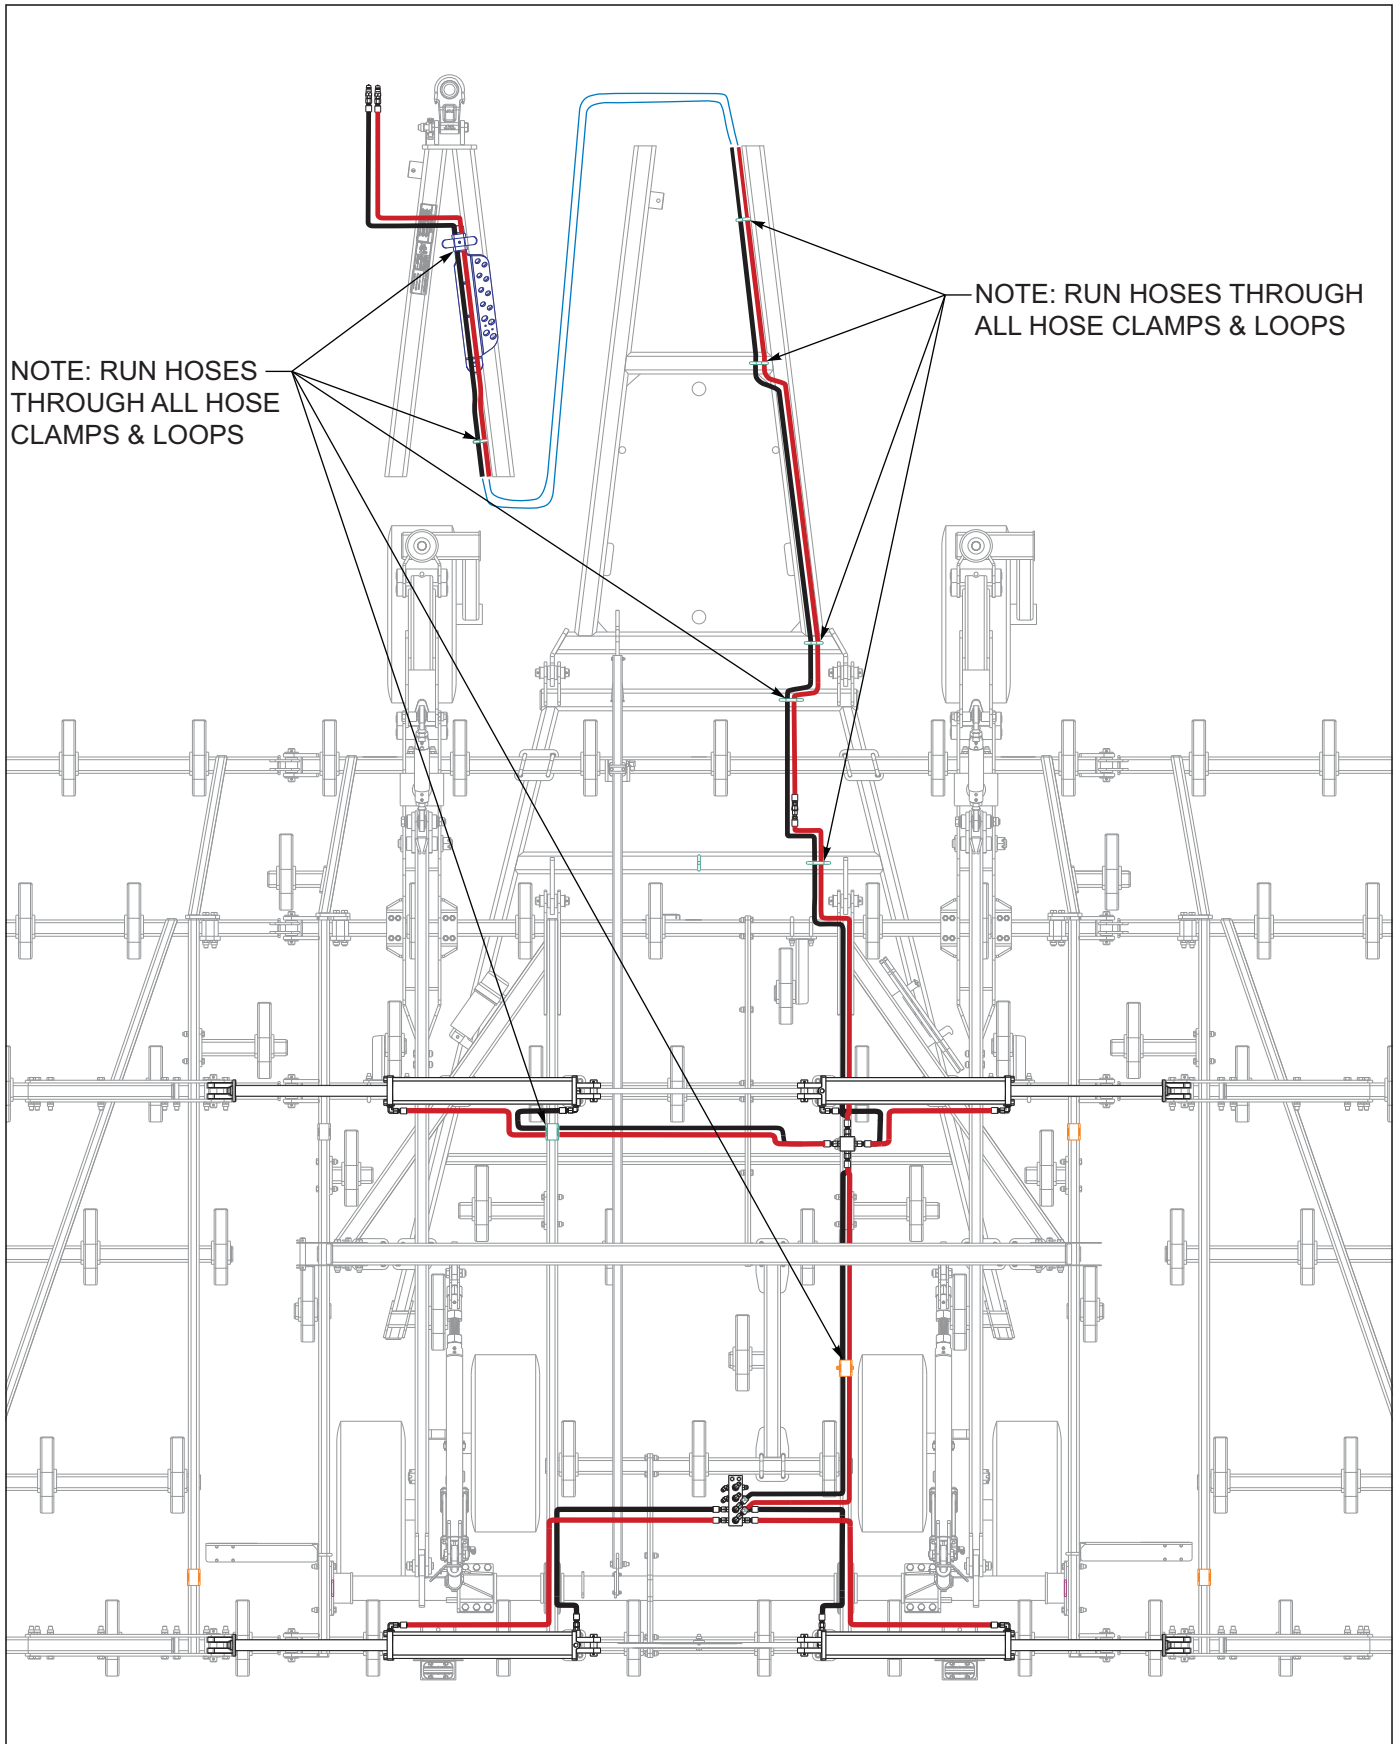

Figure 3-15: Hydraulic Fold Layout 9430FH
10. Install fold system hoses per **Figure 3-15**. Wrap fold system hoses with yellow hose wrap.